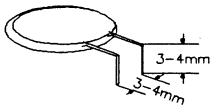

Fig. 2
4. Form leads of the replacement part (general part equivalent to the chip part) as shown in the figures and solder place. (Fig. 2)